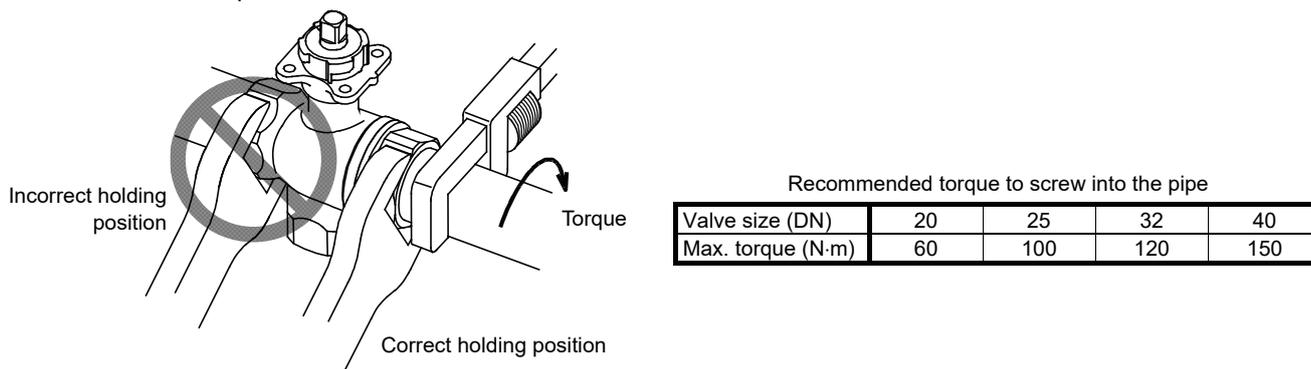

Figure 5. Valve connection to a pipe
- When connecting the valve to pipes, hold the valve body (where a pipe is screwed) with a tool such as a wrench, and screw the pipe into the valve. (See Fig. 5.) Do not apply excessive torque to the pipe. Refer to the table in Fig. 5 for the recommended torque.